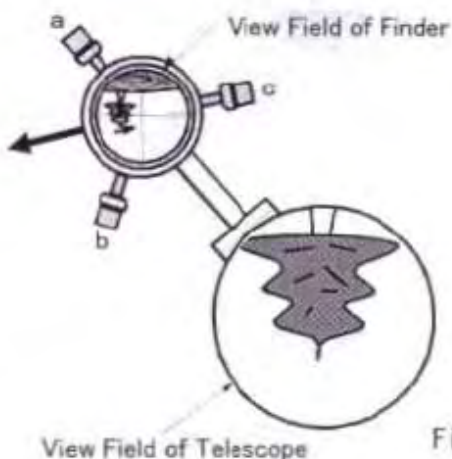

Fig. 14
2. In order to move the crosshair in the direction of the arrow, first loosen screw (a) and tighten (push) the finder with screw (c). This procedure will move the crosshair in the desired direction. The top of the finder will move in the opposite direction and the object will move in the direction of the smaller arrow. Refer to Fig. 14.